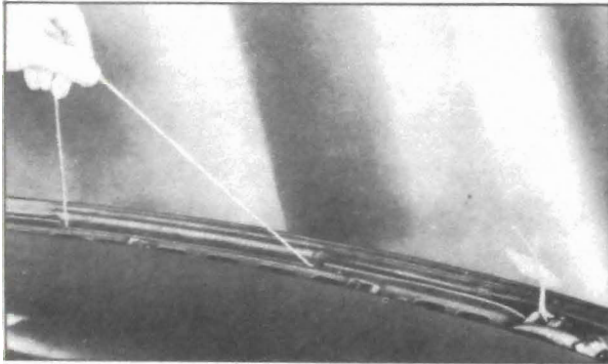

Figure 13-31—Pulling Lip of Channel Over Pinchweld Flange
8. With helper holding glass firmly in the opening, carefully pull the looped cord along the bottom, only as far as the wiper shafts, so as to fold the lip of the rubber channel over the pinchweld flange. See figure 13-31.